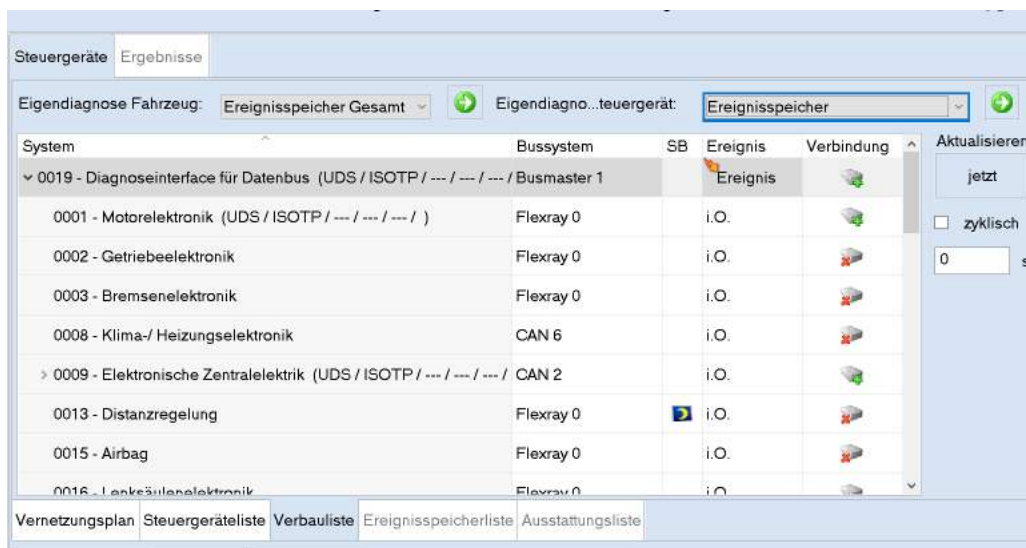

Figure 1. Self Diagnosis Identification
- b. Select **"0019 – Data Bus On Board Diagnostic Interface"** and then use the drop-down menu (top right) to select **Identification**. (Figure 1).